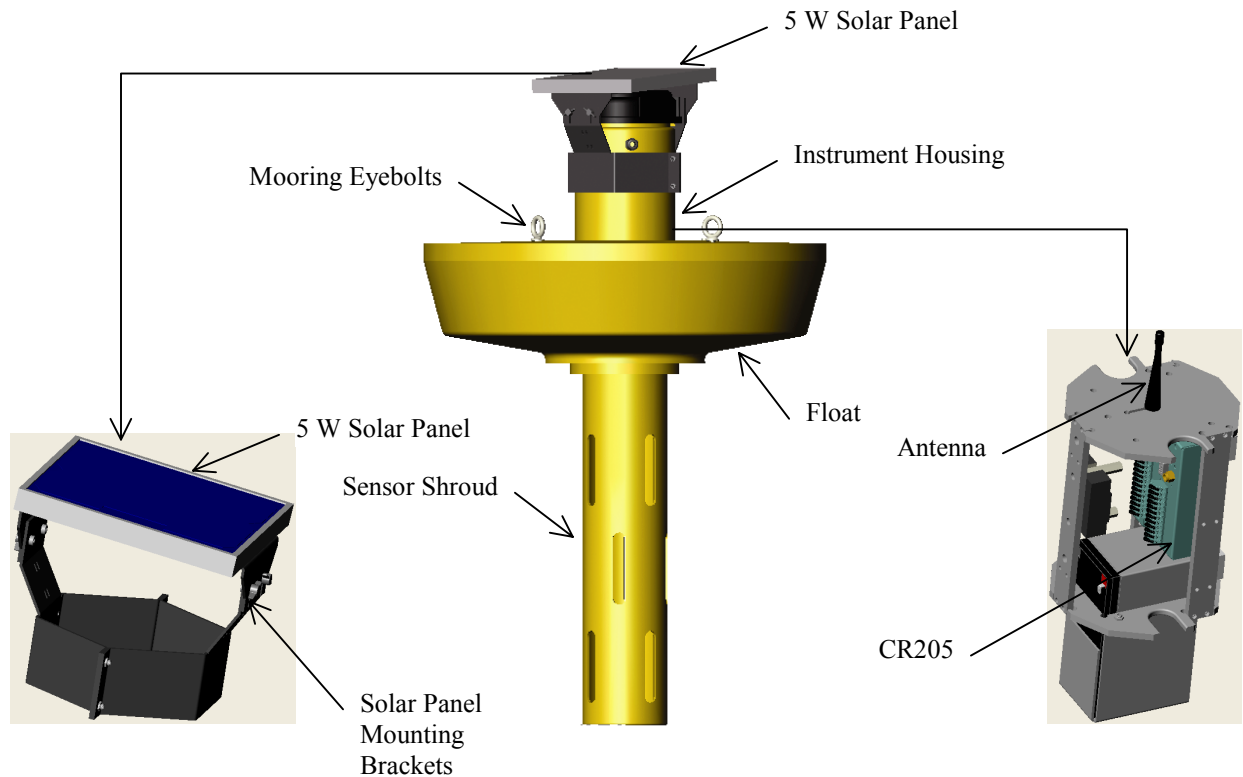

FIGURE 2-1. CSBUOY-NS
- CSBUOY-NS (See Figure 2-1)
- Float with two (2) eye-bolts